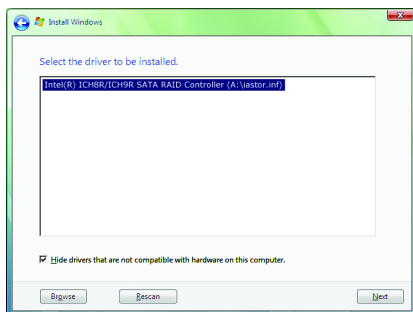

Figure 10
When a screen as shown in Figure 10 appears, select **Intel(R) ICH8R/ICH9R SATA RAID Controller** ^(Note) and press **Next**.
(Note) The item displayed in Figure 10 will be shown as **Intel(R) ICH9 SATA AHCI Controller** when the SATA controllers are set to AHCI mode.